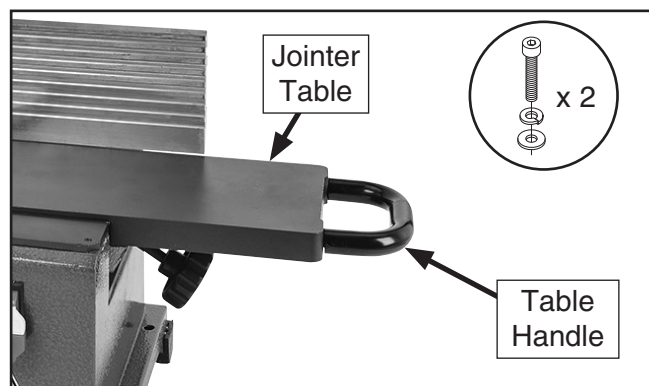

Figure 17. Handle attached to end of table.
10. Use (2) M8-1/25 x 30 cap screws, (2) 6mm lock washers and (2) 6mm flat washers to attach *each* handle to each end of the jointer tables (see **Figure 17**).